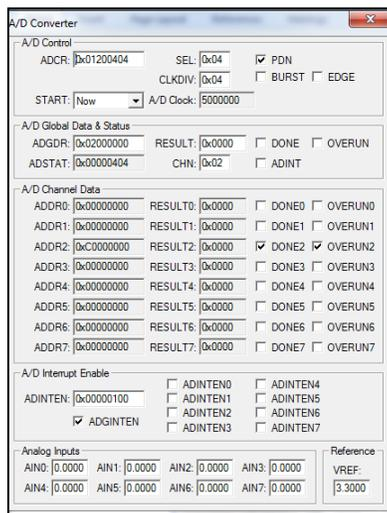

Fig. 10: A/D Converter Window
1. To open the AD Converter window, in the main menu select Peripherals >> A/D Converter. A window will appear similar to that of Fig. 10.